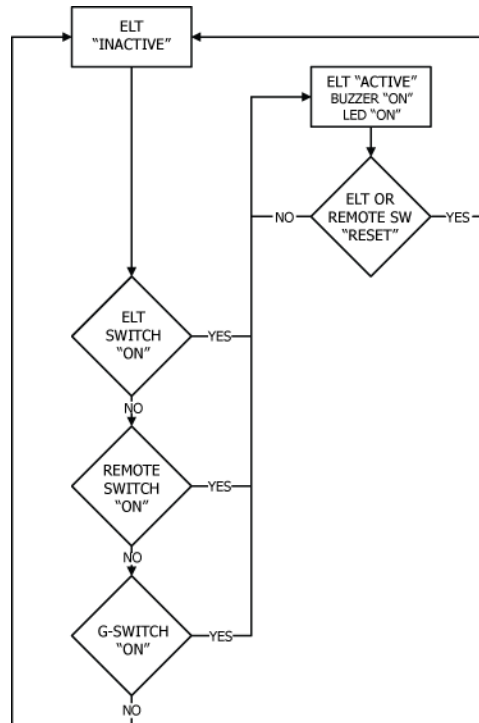

Figure 7 ELT Operational Flow Diagram
- 1) See Figure 7 ELT Operational Flow Diagram.